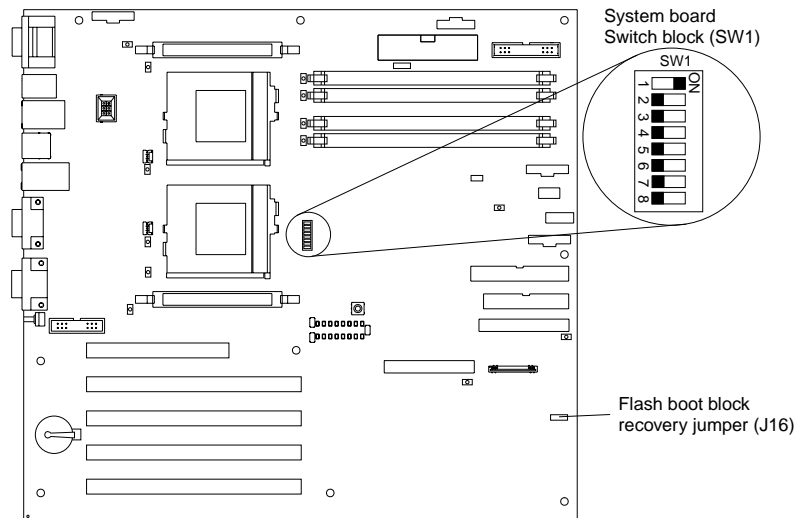

Figure 2. Boot block jumper location
2. Locate the boot-block jumper block (J16) on the system board. See Figure 2 on page 76.
Figure 2 on page 76 shows the location of the boot block jumper on the system board.